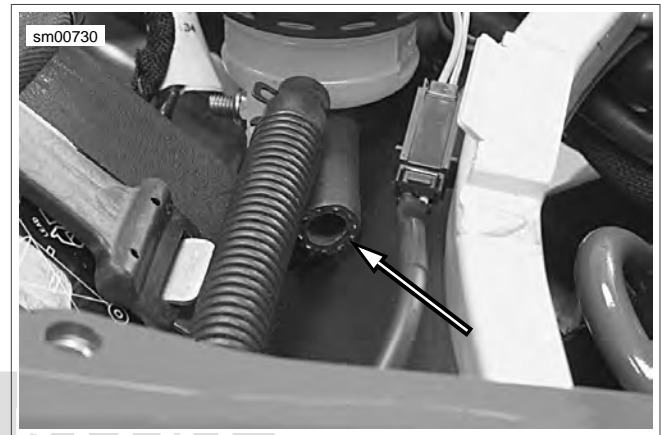

Figure 3-30. Transmission Vent Line: Firebolt
- a. See Figure 3-30. On Firebolt models, route transmission vent line up through left side of frame exiting under the rear master cylinder under the rider's seat. Install two tie wraps to secure transmission vent line in place. Inspect vent line to verify space between vent line and rear exhaust.